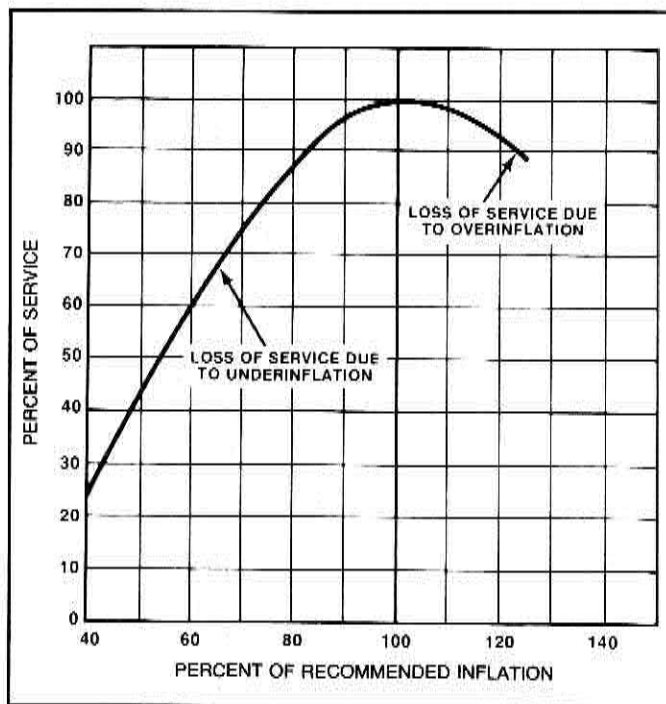

Figure 3-22 — Effect of Inflation on Tire Wear
Overinflation — This is one of the greatest causes of tire damage. Overinflation does not add strength to a tire, nor does it compensate for overloading. Instead, it weakens the tire and causes more rapid wear (Figure 3-22). Specifically, overinflation causes (1) rapid wear in center of tread, (2) greater susceptibility to impact breaks, (3) weakening of bead, (4) stresses that lead to tread separation, (5) reduced cushioning, leading to increased truck maintenance costs, and (6) reduced traction and skid resistance.
Underinflation — This causes tires to flex excessively, causing heat build-up and increased tire wear (Figure 3-22). Underinflation leads to (1) excessive wear on shoulder of tread, (2) irregular tread wear, (3) ply separation, (4) greater susceptibility to bruising, and (5) tread separation.